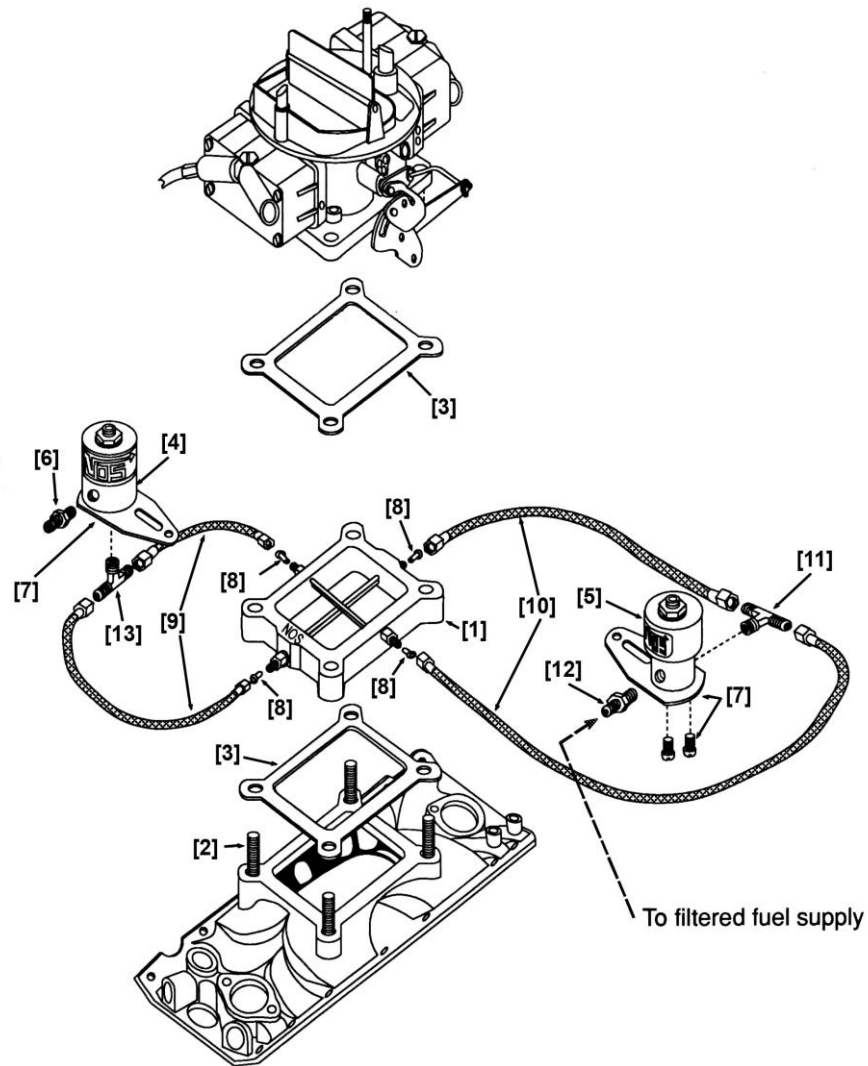

Figure 2 Crosshair™ Plate System Kits 02153NOS & 02154NOS—Assembly Drawing
6. Install the extended carburetor studs (2).
7. Install the injector plate (1) and gaskets (3) on the intake manifold with “THIS SIDE UP” facing up and forward. See Figure 2 for the illustration of the part installation. This places the fuel inlets on the plate towards the front and driver’s side of the vehicle for the 4500 flange plates and the fuel ports to the driver’s side and rear for the 4150 flange plates.
Use the following procedure to install the nitrous solenoid (4) and fuel solenoid (5). See Figure 2 for the illustration of the part installation.